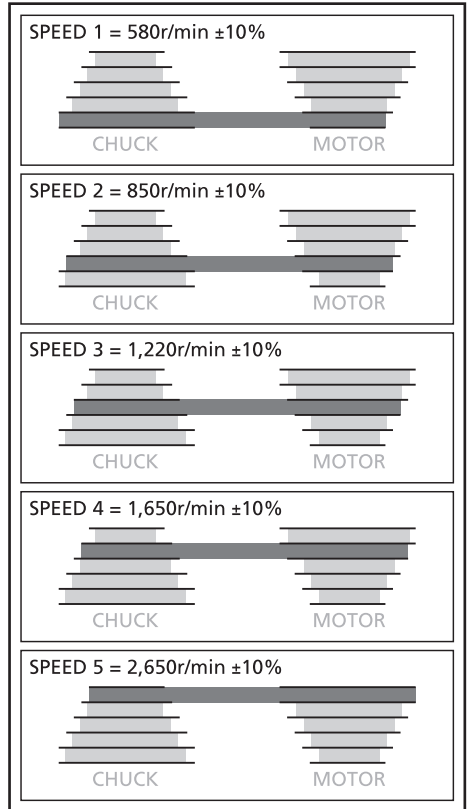

FIG.7
9.1 SPINDLE SPEED ADJUSTMENT – FIGS. 7 – 8